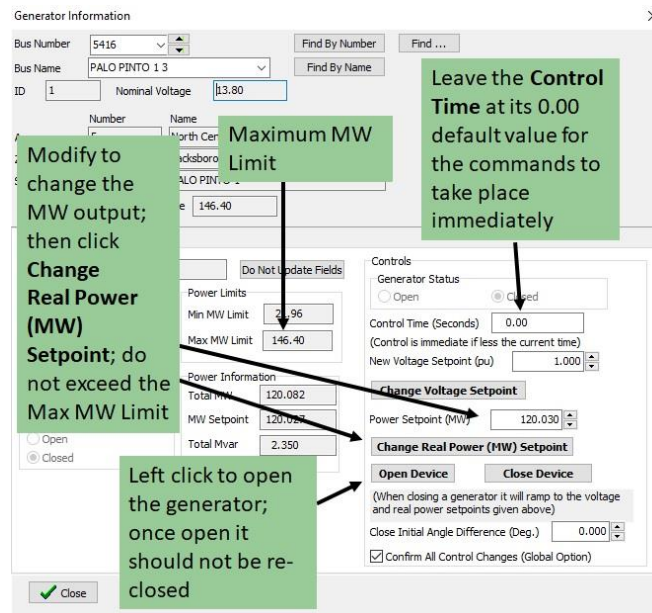

Figure 7: Generator Dialog
3. Now try to prevent the blackout for the 200 second duration of the simulation. To restart the simulation select **Simulation Control, Reset and Start**. In this scenario you can either change the outputs of the generators, open the generators, or change the status of the loads. To change the generation, right-click on the magenta generator MW fields shown on the oneline. This displays the Generator Information Dialog with an example shown in Figure 7. To change the MW setpoint for the generator, enter a value into the **Power Setpoint (MW)** field that is in the range between the minimum and maximum MW limits. Then click the **Change Real Power (MW) Setpoint** button. To open the